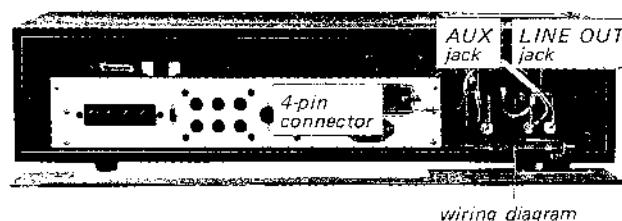

Fig. 2-3. Connector removal
2. Disconnect the two pair of phono plugs, 4-pin connector from the cassette deck as shown in Fig. 2-3.
Note: When reconnecting the phono plugs, refer to the wiring diagrams stucked inside the wooden case as shown in Fig. 2-3.